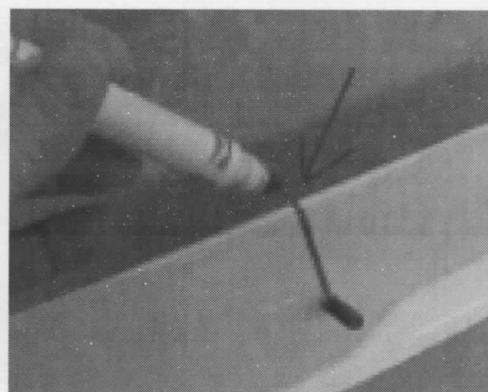

FIG. 3
3. MARK THE FRONT EDGE OF THE SPOILER WITH MARKS CORRESPONDING TO THE SPACING OF THE STUD HOLES (SEE FIG. 3).